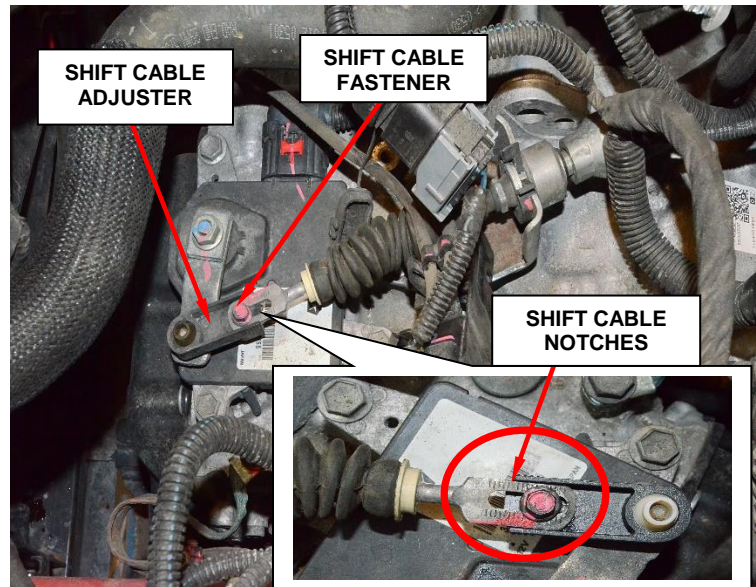

Figure 5 – Shift Cable Adjuster
17. Place a mark on the gear shift cable notches that are in line with the adjuster (Figure 5).
18. Remove the fastener and remove the shift cable adjuster from the transmission shift lever and discard (Figure 5).
20. Align the shift cable notches mark and the fastener witness mark on the gear shift cable (Figure 5).